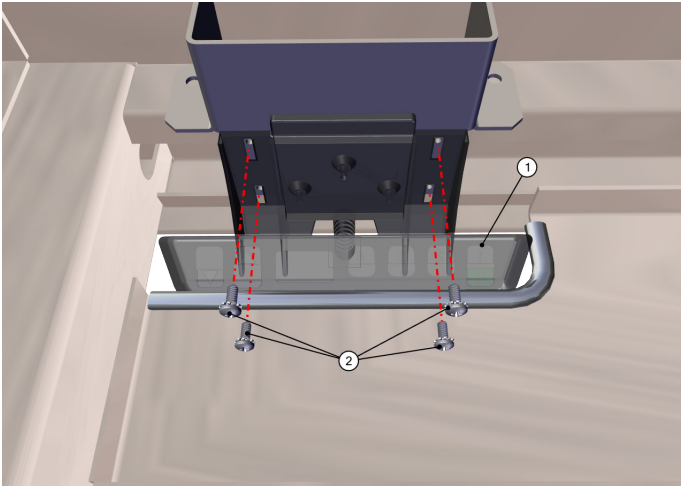

Fig. 5: Attach new Memory Control Pad
2. Insert four 1/4" screws into the holes of the Memory Control Pad, attaching the Memory Control Pad to the table mounting plate. (Fig. 5)